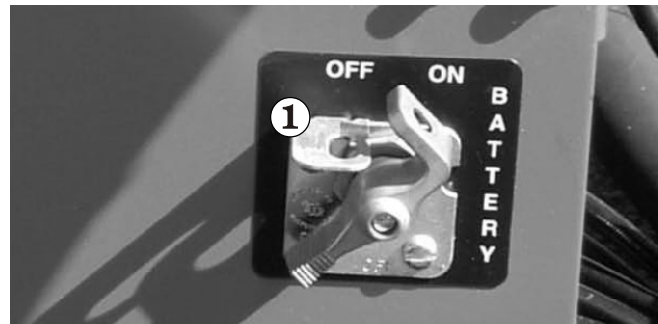

Figure 9.7
1. Turn the **Battery** switch ① to off (see Figure 9.7).